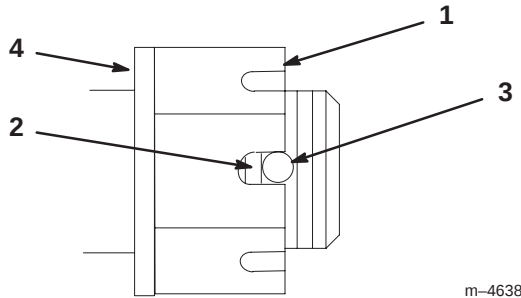

Figure 43
3. Torque slotted nut to 125 ft-lbs (169.5 N•m) (Fig. 43).
4. Check the distance from bottom of slot in nut to inside edge of hole. Two threads or less should be showing (Fig. 43).
5. If more than two threads are showing remove nut and install washer between hub and nut (Fig. 43).
6. Torque the slotted nut to 125 ft-lbs (169.5 N•m) (Fig. 43).
7. Tighten nut until the next set of slots line up with the hole in the shaft (Fig. 43).